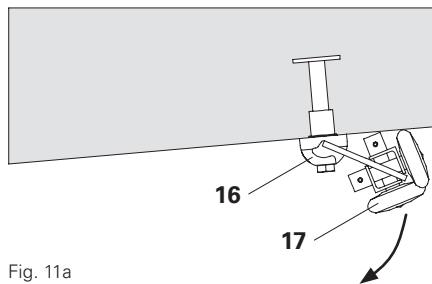

Fig. 11a
2. Swivel the Roller Unit VARIOKIT (17) downwards. (Fig. 11a + 11b)